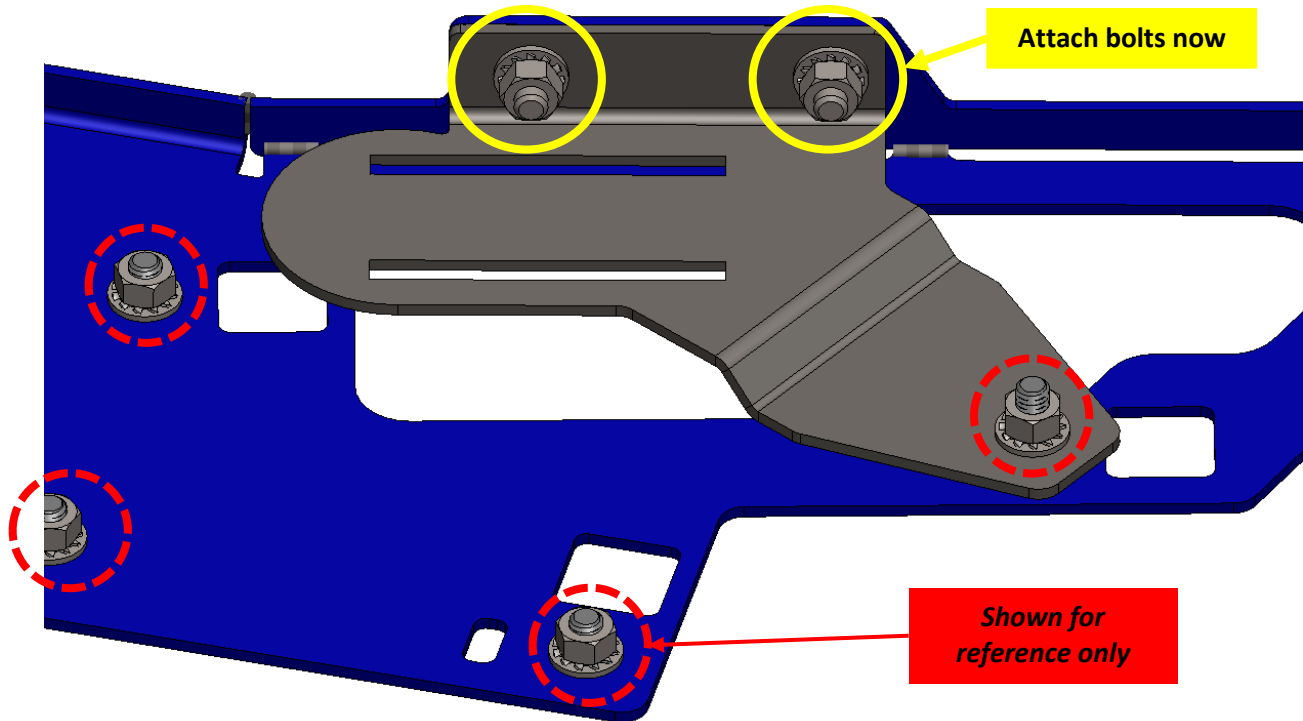

Figure 6 - RAPTOR-303 attached to RAPTOR-301
9.4.1. Using hardware #3, #5, #7, & #18, secure RAPTOR-303 to RAPTOR-301. Hand tighten fasteners only at locations shown circled in yellow in Figure 6 below.